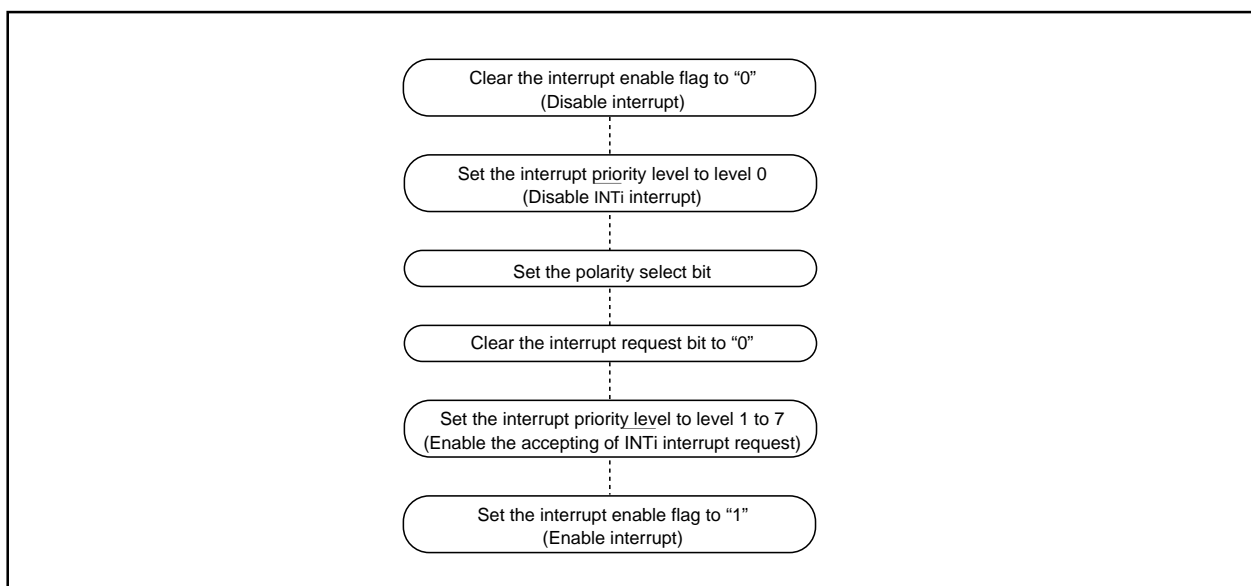

Fig.DD-18 Switching condition of INT interrupt request
(3) The $\overline{\text{NMI}}$ interrupt
(4) External interrupt
- When the polarity of the $\overline{\text{INT}}_0$ to $\overline{\text{INT}}_{11}$ pins is changed, the interrupt request bit is sometimes set to "1". After changing the polarity, set the interrupt request bit to "0". Fig.DD-18 shows the procedure for changing the $\overline{\text{INT}}$ interrupt generate factor.